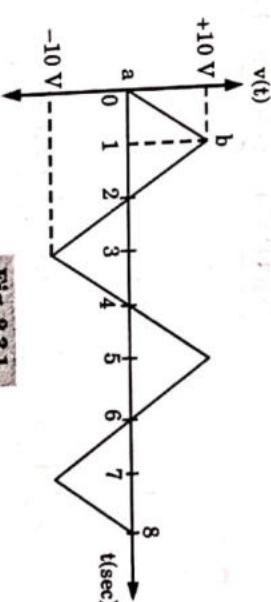

Fig. 2.3.1.
**Que 2.3.** Calculate average value, rms value, form factor and peak-factor of the following waveform shown in Fig. 2.3.1.